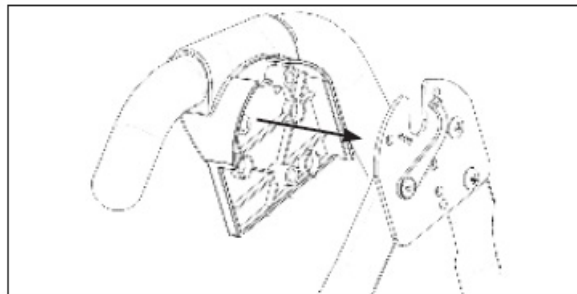

Figure 2
- Figure 2: Determine the left or right handles, marked with an embossed L / R on the inside of the black plastic part of each handle.